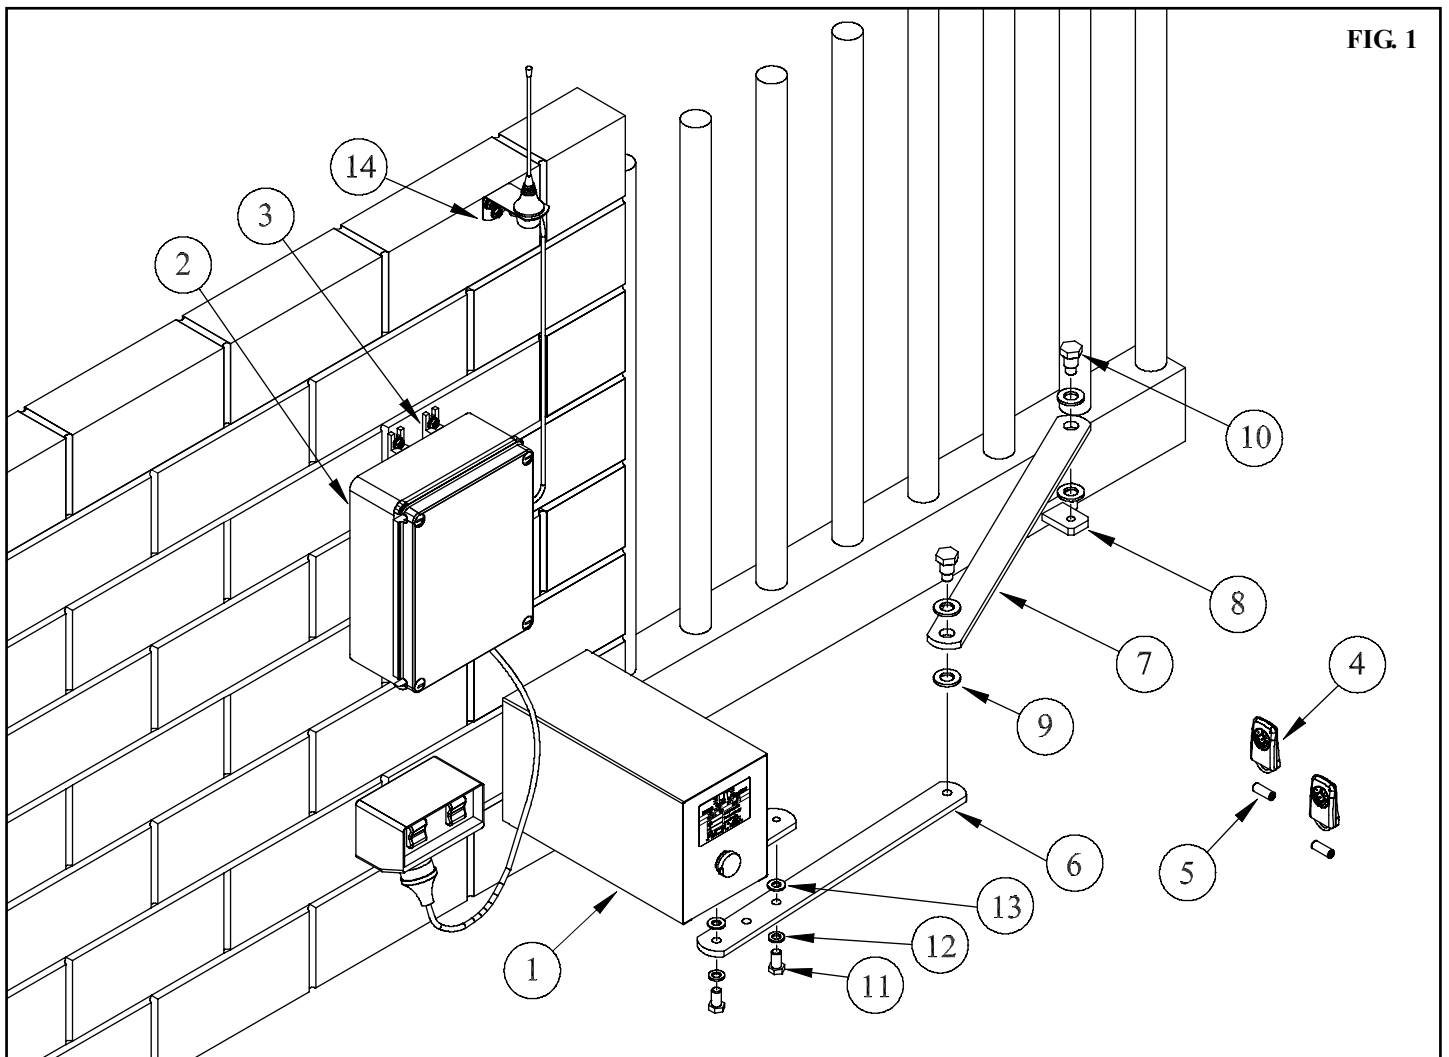

FIG. 1
2. Attach drive arm extension to drive arm (fixed to the drive unit) (**Fig. 1**), using two (2) Hex. Head screws and spring and flat washers supplied.